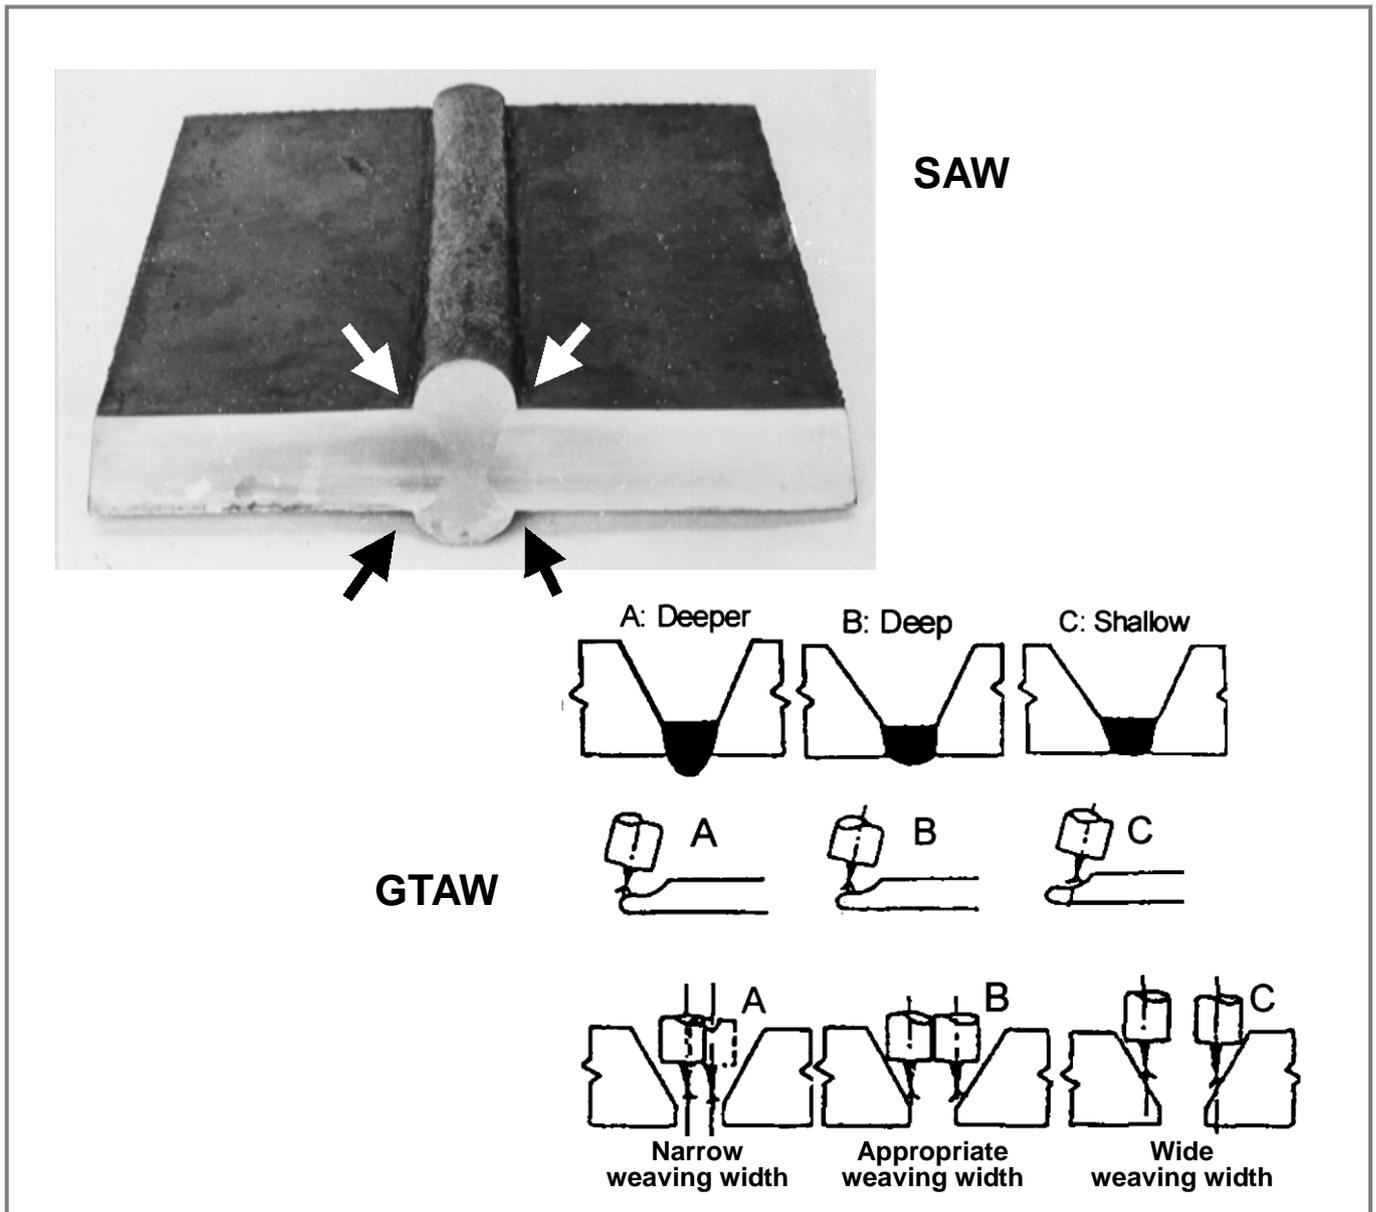

Fig. 2 EXCESSIVE WELD REINFORCEMENT
- Fig. 2 — Excessive weld reinforcement